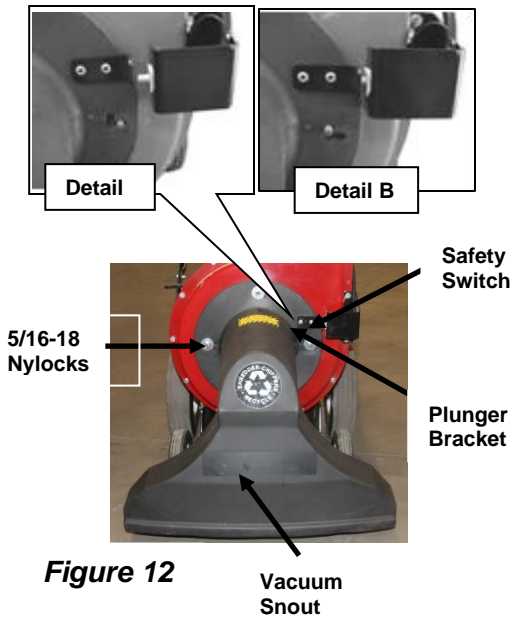

Figure 12
11. Place the Vacuum Snout onto the front of the Housing (**Figure 12**) so the studs are located in the right-hand side of the lower slots (**Detail A**). Slide the Snout to the right and down so the Plunger Bracket on the Snout pushes the Safety Switch in (**Detail B**).